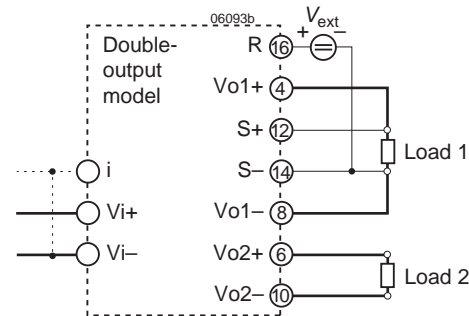

Fig. 20 Output adjust using an external control voltage  $V_{ext}$ .
a) Adjustment by means of an external control voltage  $V_{ext}$  between R (pin 16) and S- (pin 14), see fig. 20.